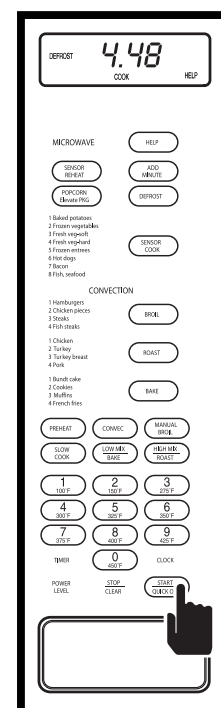

Figure 3-55.
5. Press QUICK ON/START key to resume the auto defrost process. Display will show the remaining time as it counts down along with the word “DEFROST ” (See Figure 3-55). At the end of the defrost time, “LET - STAND - COVERED ” will flash on display and alarm will beep.